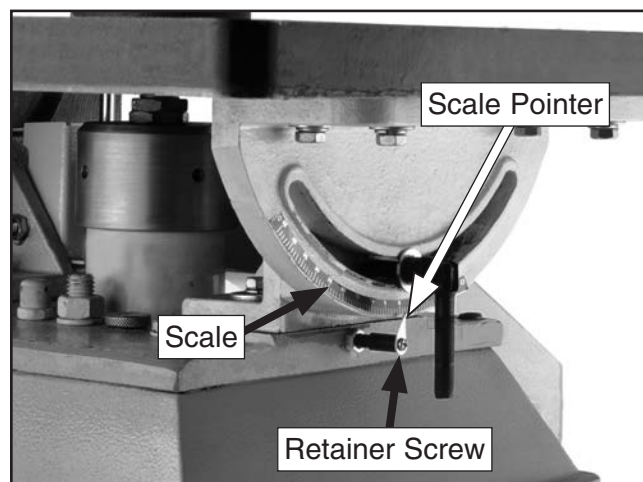

Figure 13. Pointer adjustment.
10. Loosen the retainer screw (see **Figure 13**) that secures the scale pointer and adjust the scale pointer to read 0°. Re-tighten the retainer screw.